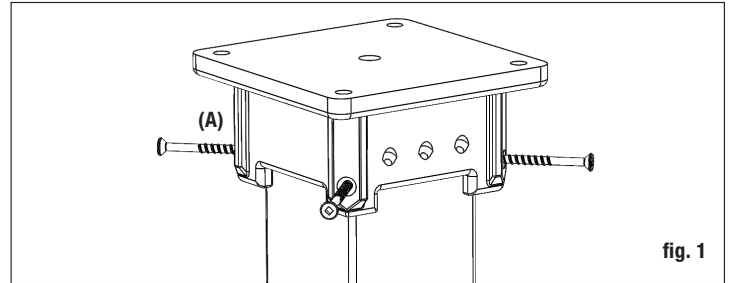

fig. 1
Step 2 Insert post into anchor. Shim as necessary to achieve plumb post. Pre-drill through the corner holes. Use (4) #12 x 2.5" exterior construction screws (A) to attach the anchor to the 4x4. Do not overdrive screws. Turn the post over. (fig. 1)